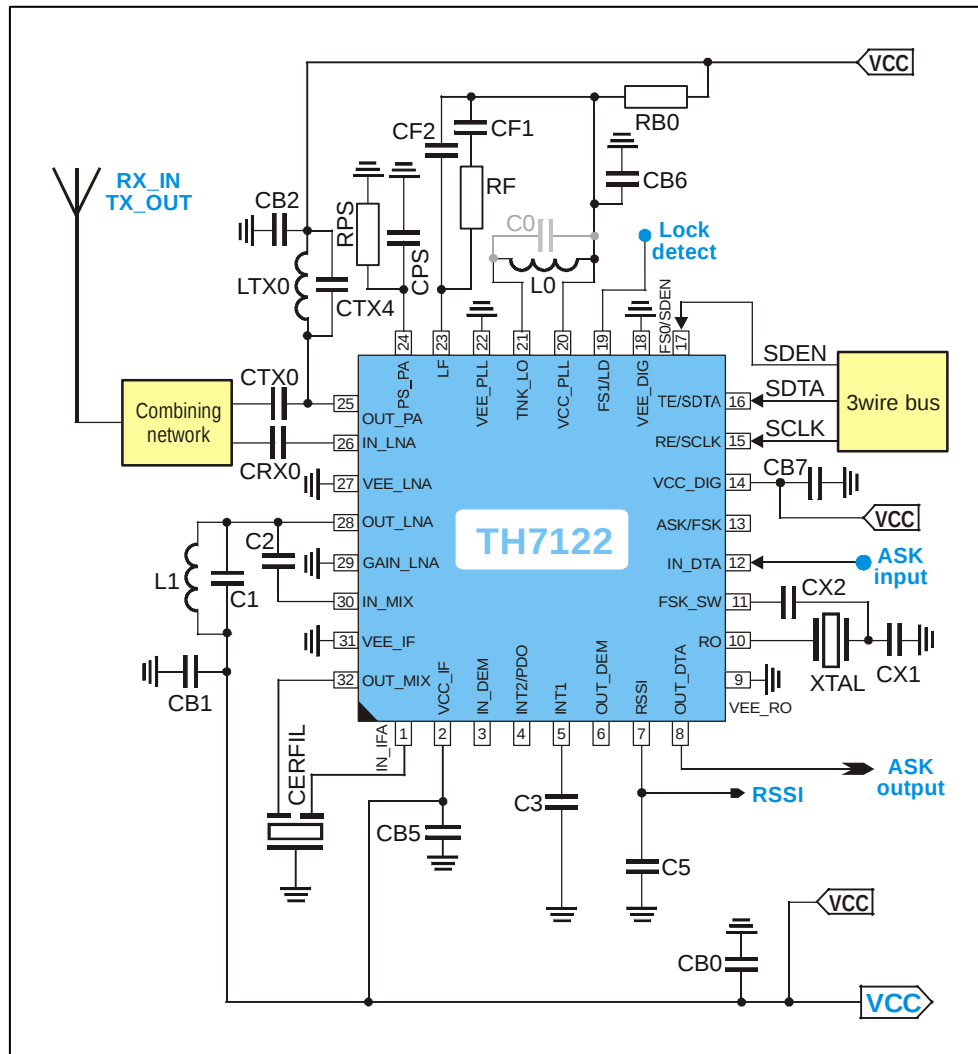

Fig. 16: Test circuit for ASK operation in Programmable User Mode
all parameters under normal operating conditions, unless otherwise stated; all parameters based on test circuits for FSK (Fig. 14 to 15) and ASK (Fig. 16 to 17), respectively;
all parameters based on test circuits for FSK (Fig. 14 to 15) and ASK (Fig. 16 to 17), respectively;
7.5 ASK Test Circuit Component List (Fig. 16)